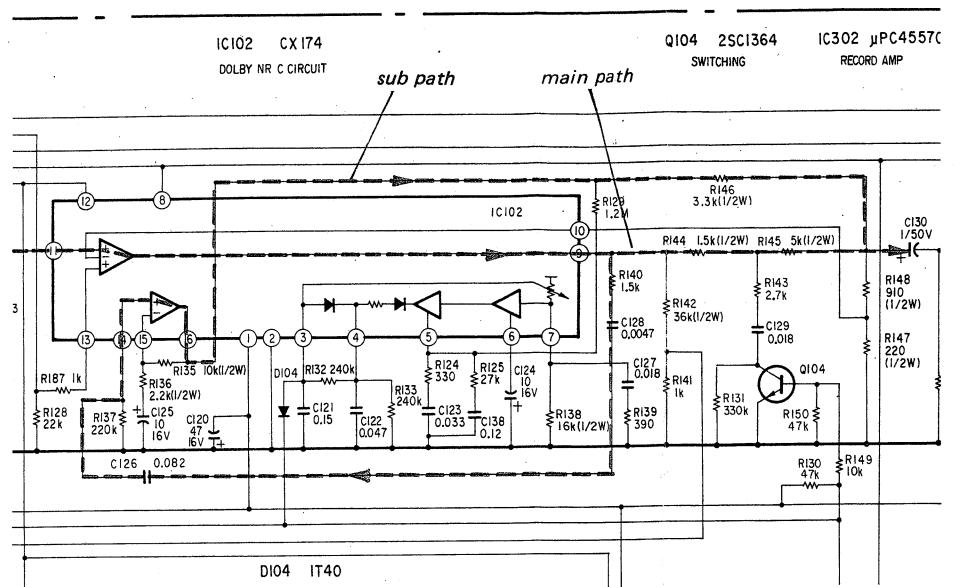

Fig. 5 Low-Level Stage Variable Filter (L-CH)
- a) Variable filter (Refer to Fig. 5)